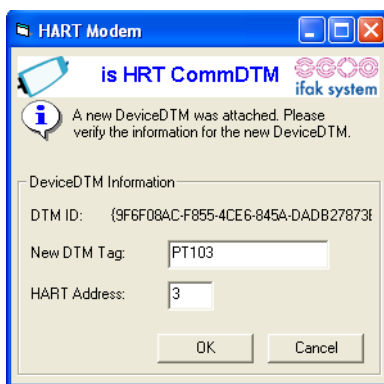

Figure 62. Insert HART Device Object
7. Click **Insert**. A screen similar to the one shown in Figure 62 is displayed.